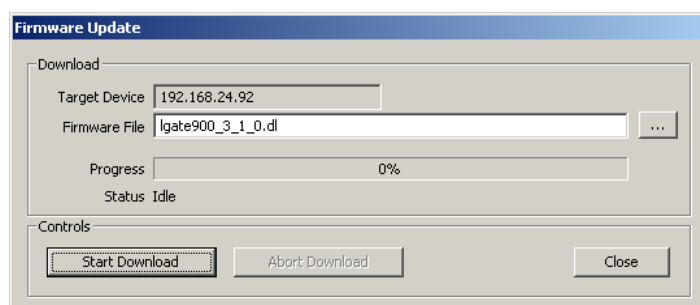

Figure 116: Firmware Update dialog of the L-Gateway configuration software.
6. This opens the Firmware Update dialog as shown in Figure 116. Click on the button "..."